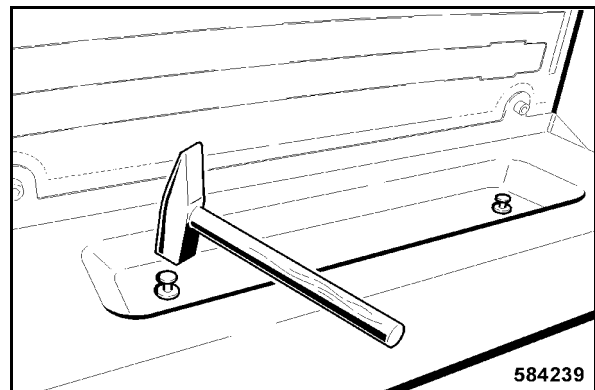

Fig. 221
- Insert the rear rack and knock both plastic fasteners carefully into the bores with a hammer (Fig. 221).